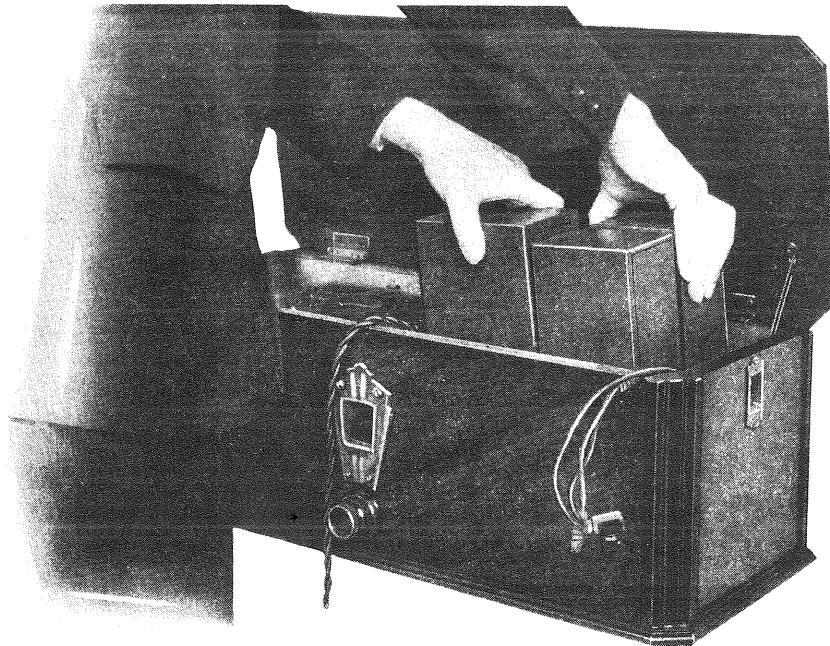

Figure 23—Removing Radiola 44 socket power unit from cabinet
- (c) Remove the four machine screws that hold the S.P.U. to the bottom of the cabinet. The S.P.U. may now be lifted clear of the cabinet (See Figure 23) and placed in a position convenient for work. It is replaced in the cabinet in the reverse manner of that used to remove it.